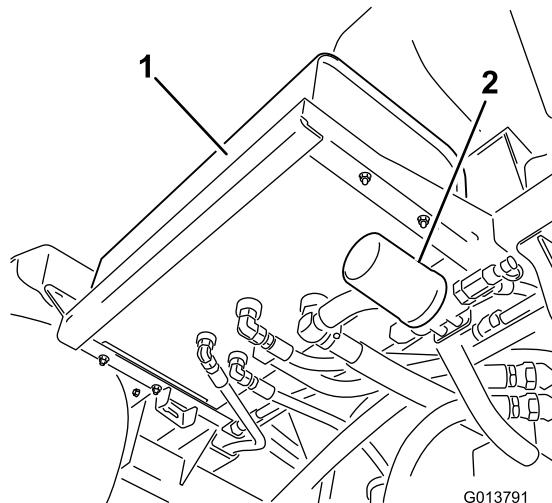
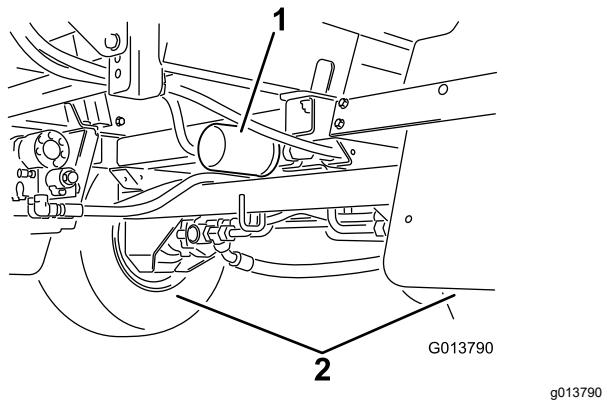

Figure 143
Figure 144
2. Locate the 2 hydraulic filters on the machine (Figure 143 and Figure 144).